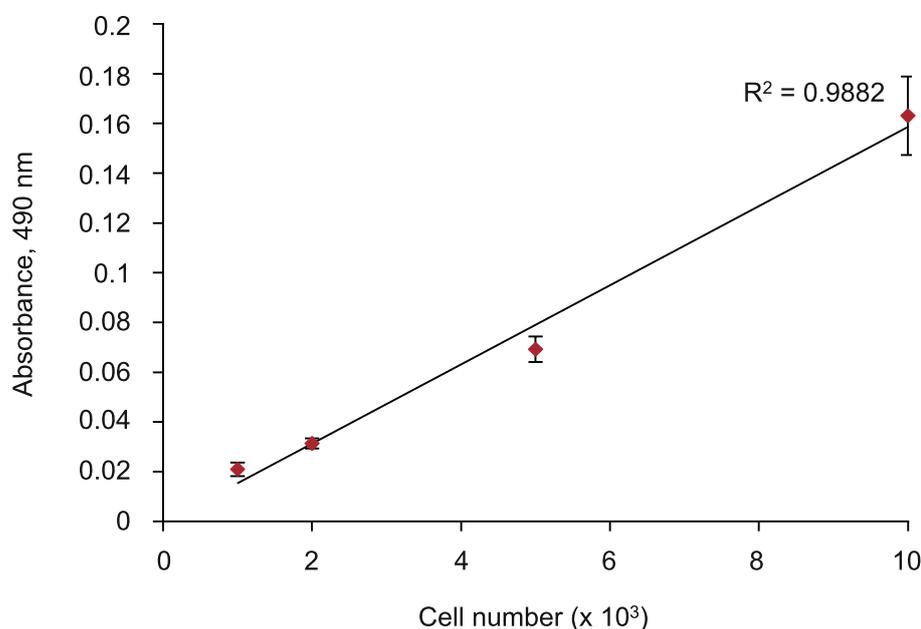

Figure 2. Cell number standard curve for PC-3 cells cultured on 384 well plates. $n=12 \pm SD$.
- After 24 hours of culture, a linear MTS assay response with increasing cell number was observed (Fig. 2).